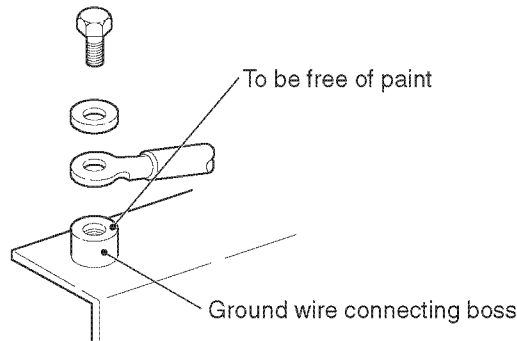

Figure 13-25
- Prepare the areas where the grounding wire will be attached (such as removing paint) (**Figure 13-25**).